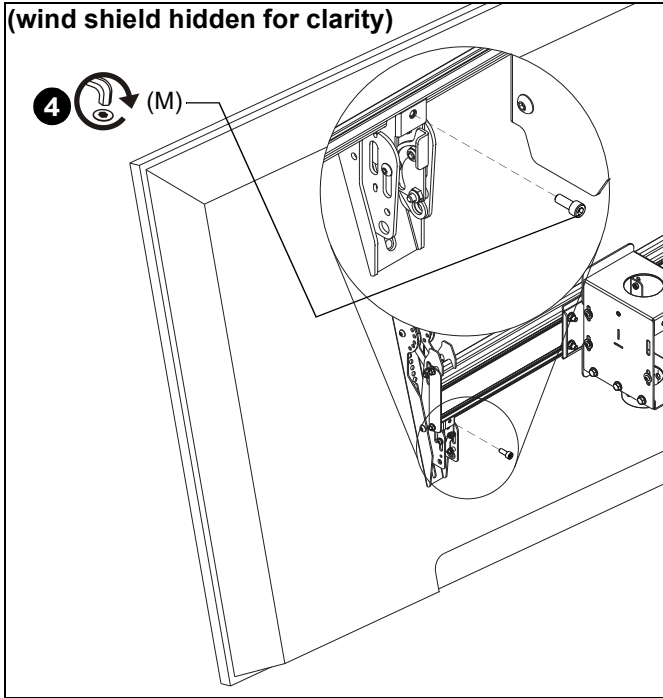

Figure 7
- Fasten brackets against ceiling mount extrusion using #10-24 x 1/2" socket head cap screws (M). (See Figure 7)